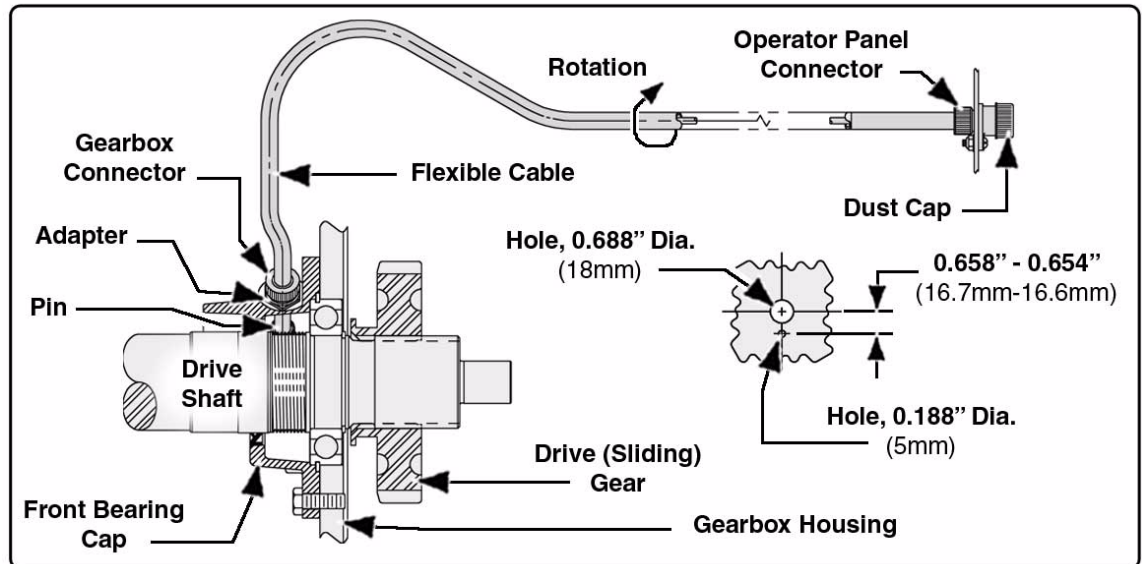

Figure 6d-1: Tachometer / Speed Counter Option
1. Disconnect the flexible cable at the front bearing cap adapter and the operator panel. (See Figure 6d-1: "Tachometer / Speed Counter Option.")